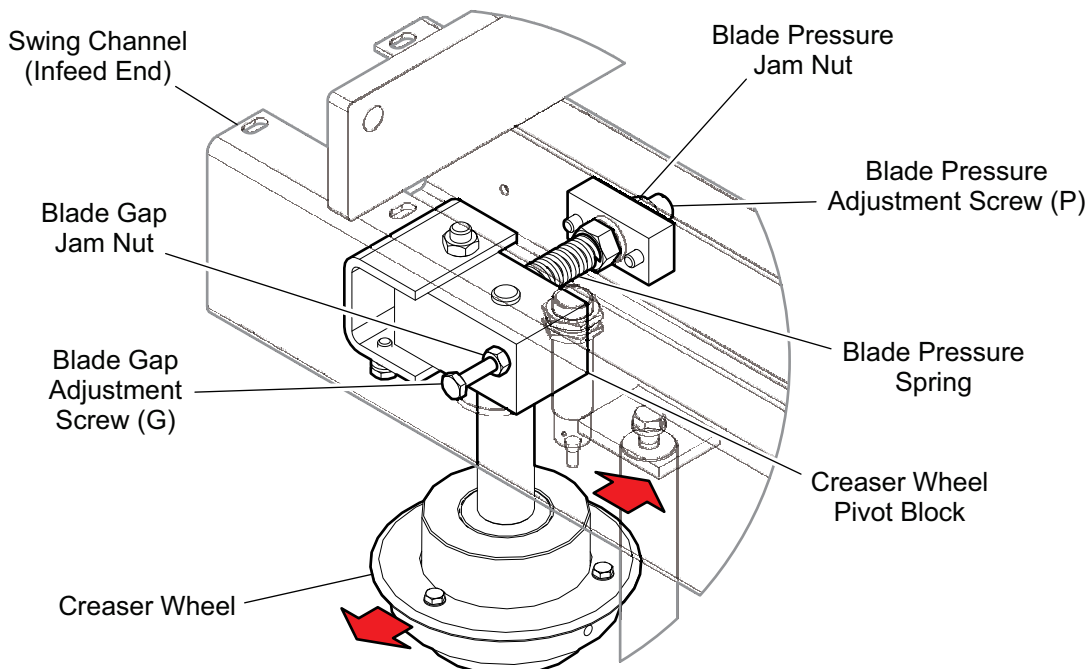

Figure 5-15: Creaser Blade Horizontal Adjustment
The gap between the blade and the die groove is determined by the type of bags being closed. The optimum range suggested for the gap is from 3/32 - 3/16 inch (2,4 - 4,8mm). Set the gap for the larger gap size for thicker bag materials and the smaller gap for the thinner materials. The gap can be easily and quickly changed. The horizontal location of the creaser blade is adjusted by a bolt in the block of the creaser blade assembly, located in the swing channel (see Figure 5-15: Creaser Blade Horizontal Adjustment). To adjust the gap setting, continue to follow these steps:
2. Loosen the Blade Gap Jam Nut (see Figure 5-15: Creaser Blade Horizontal Adjustment).
3. Turn the Blade Gap Adjustment Screw, (G) in or out of the block to decrease or increase the gap size, respectively. The blade must never come into contact with the die.
4. Once the desired gap is achieved, lock the adjustment screw, (G) into position with the jam nut.
1. Loosen the jam nut on the Blade Pressure Adjustment Screw (P). The nut and screw can be seen on the front face of the swing channel (see Figure 5-15: Creaser Blade Horizontal Adjustment).
2. From the front of the machine, turn the screw, (P) clockwise to increase the pressure and counter-clockwise to reduce the pressure. This changes the compression in the spring. For most instances, the pressure needed for most common bag types can be produced within a couple of turns of the lightest settings of the adjustment screw (P).